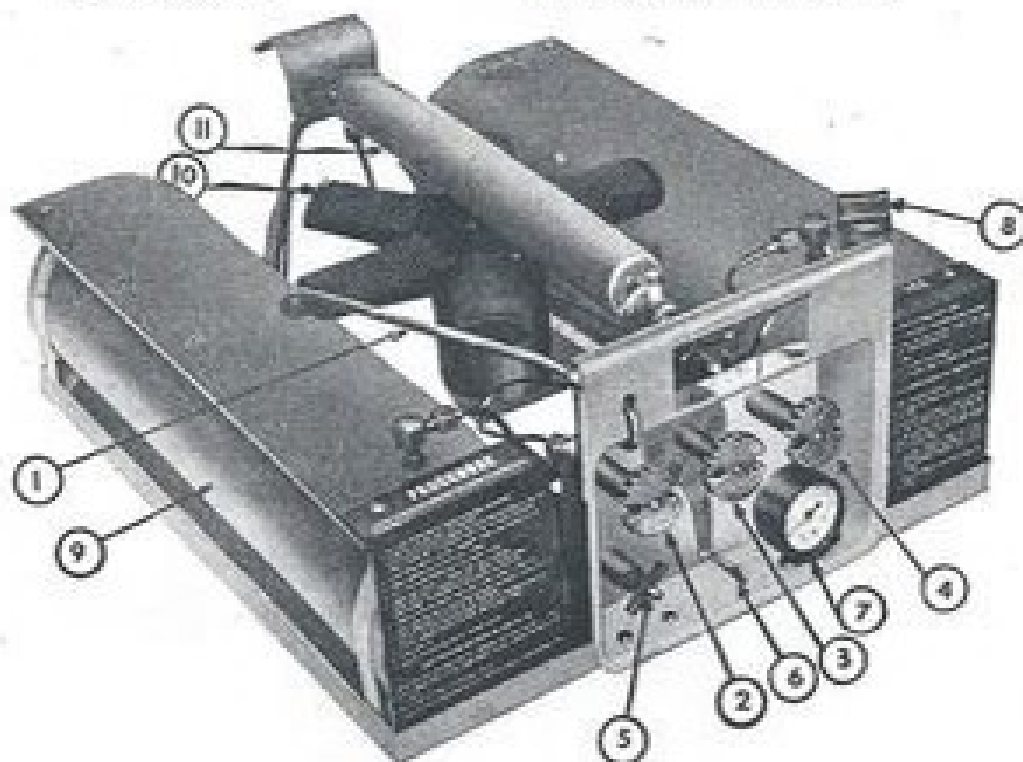

Figure 3. Fire unit.
is furnished in one model only. The range was originally issued with the old type fire unit (Stock No. 65-J-2605) which is identified by the presence of a slender generator tube and an umbrellalike filter case containing an asbestos disk filter. The range is now issued with a simplified converted type fire unit (fig. 3) (Stock No. 65-J-2612), equipped with a tubular generator assembly, containing a steel wool filter, and a redesigned mixture valve. These changes make possible the use of leaded gasoline as a burner fuel. Organizations still using the old type fire units should exchange them as quickly as practicable for converted units.
e. FIRE UNIT. The fire unit (fig. 3) consists of an air tank, a fuel tank, a generator, a burner, and the necessary valves and tubes to connect these units, all mounted in a frame. White or leaded motor fuel gasoline is used as the fuel. The generator contains a steel wool filter which removes the dirt and some of the lead from the gasoline before it is burned. This reduces the lead toxicity of the burner fumes and the clogging of burner valves, tubes, and slots. The unit operates under pressure; the hand pump is used to build up and maintain the pressure by pumping air into the system.